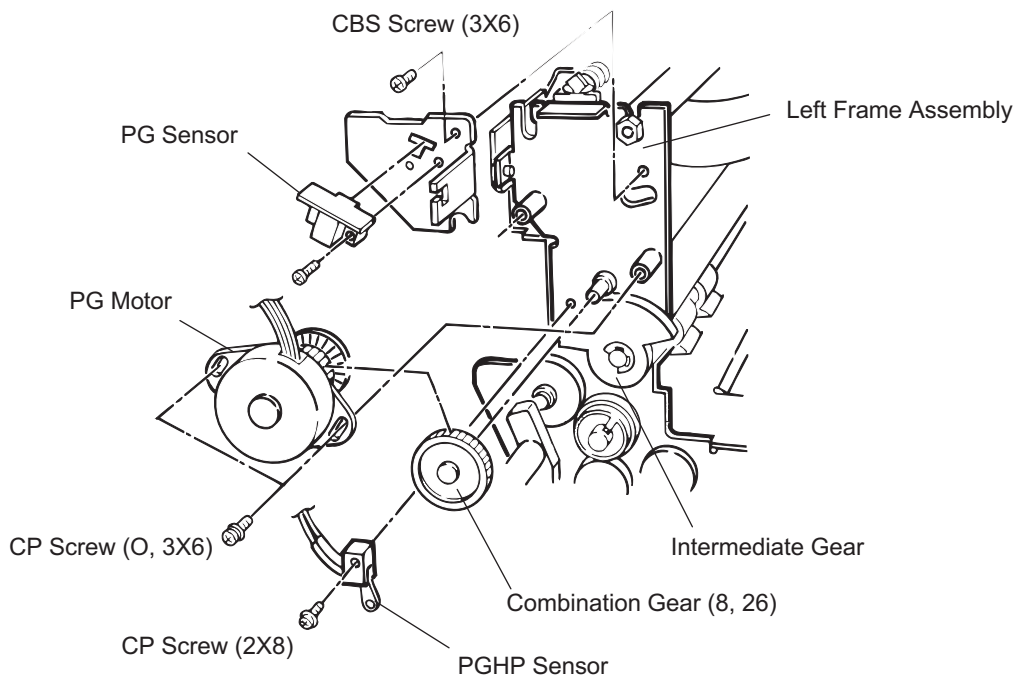

Figure 3-22. PG Adjustment Mechanism Removal
- Step 9) After removing the PG motor (See Section 3.2.6.9,) and the intermediate gear (See Figure 3-22.), remove the E-ring fixing the sector gear to the lower CR guide shaft. Then remove the gear.
- Step 11) Remove 2 hexagon nuts (OW) securing the upper CR guide shaft to the printer mechanism.
- Step 12) Dismount the extension spring (154) on the CR, and remove the upper CR guide shaft by lifting it up.